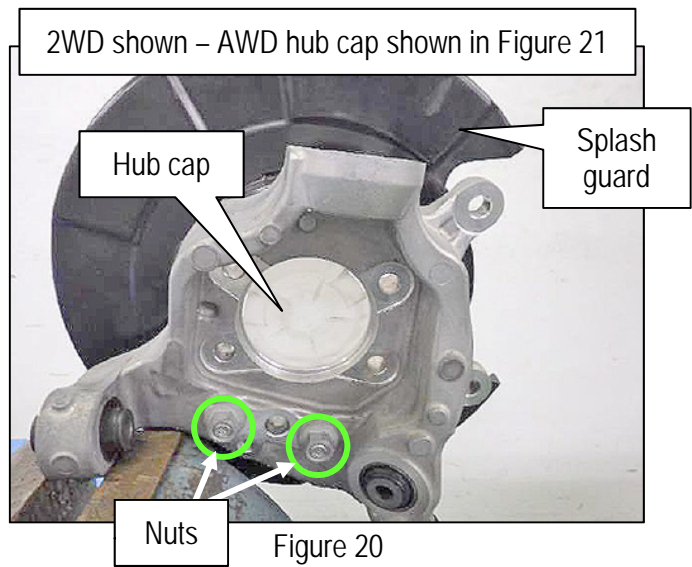

Figure 20
27. Separate the hub cap from the rear knuckle (Figure 20 and).